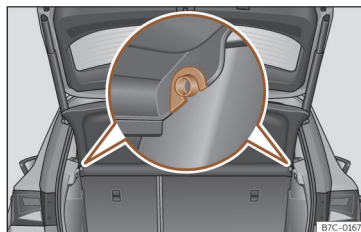

Fig. 107 In the luggage compartment: removing and fitting the shelf.
- Remove the rear shelf from the side supports»» Fig. 107 by pulling it upwards and then take it out.
- Insert the cover horizontally so that the “recess” fits onto the axis of the supports »» Fig. 107 and press down until it engages.